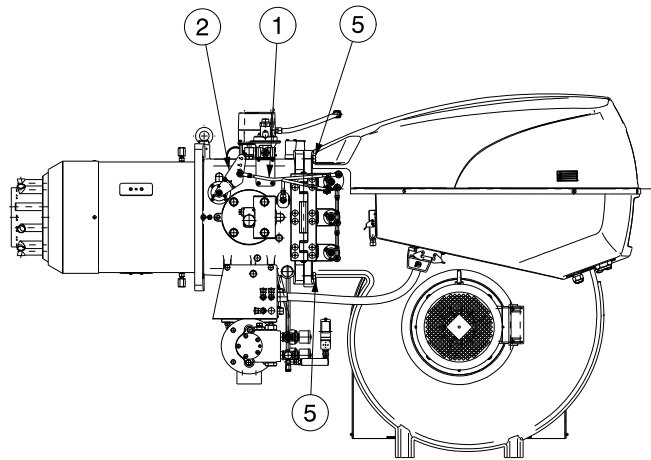

Fig. 42
- remove the tie-rod 1)(Fig. 42) of the head movement lever, undoing the nut 2);